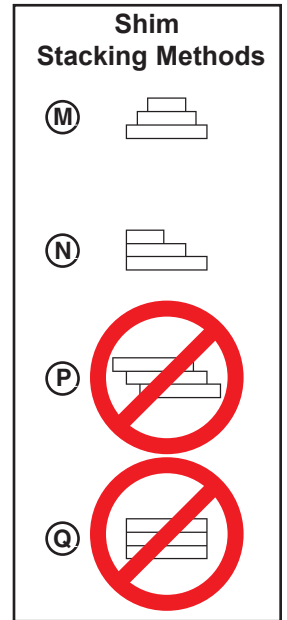

Figure 6
2. Using the results obtained in step 1, create the individual shim stacks on the pit floor at locations (B). Build each shim stack (K) using the pyramid method (M) (preferred) or stepped method (N) with the top shim having a minimum size of 4-1/2 x 4-1/2 in. (114.3 x 114.3 mm) and each successive lower shim being larger so the shims can be welded together using a fillet weld. DO NOT use offset method (P) or straight method (Q) (Figure 6).